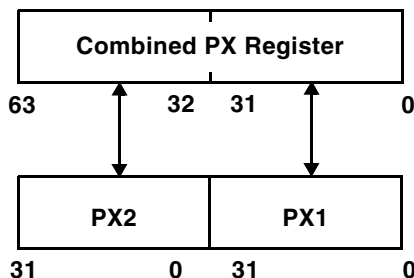

Figure 5-2. PM Bus Exchange (PX, PX1, and PX2) Registers
The data buses allow programs to transfer the contents of any register in the DSP to any other register or to any internal memory location in a single cycle. As shown in Figure 5-2, the PM Bus Exchange (PX) register permits data to flow between the PM and DM data buses. The PX register can work as one 64-bit register or as two 32-bit registers (PX1 and PX2). The alignment of PX1 and PX2 within PX appears in Figure 5-2.
The PX register-to-register transfers using data registers are either 40-bit transfers for the combined PX or 32-bit transfers for PX1 or PX2. Figure 5-2 shows the bit alignment and gives an example of instructions for register-to-register transfers.
Figure 5-2 shows that during a transfer between PX1 or PX2 and a data register (Dreg), the bus transfers the upper 32 bits of the register file and zero-fills the eight least significant bits (LSBs).